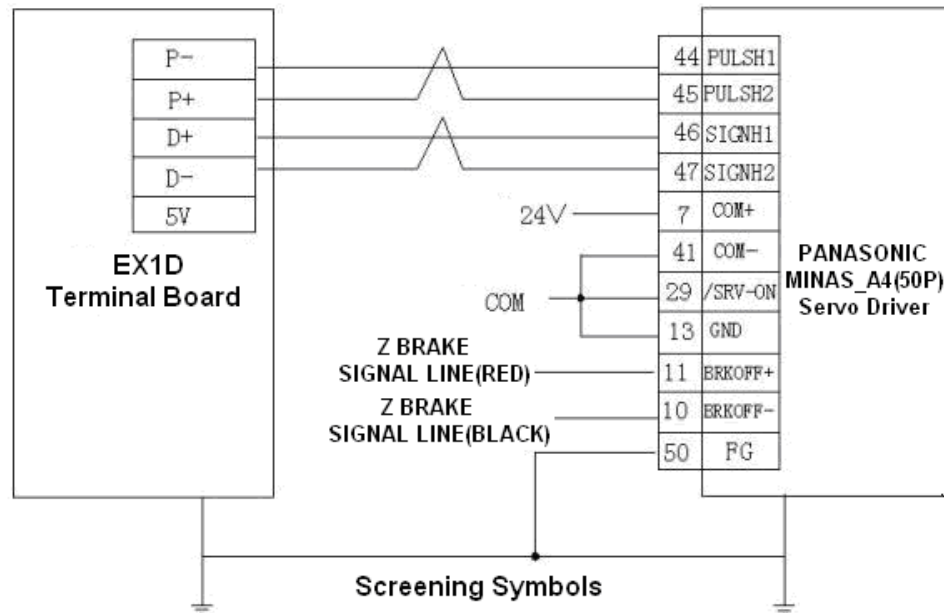

Fig. 4-14 Connection between Terminal Board EX1D and PANASONIC MINAS_A4 Servo Driver
- 1) Wiring diagram of connection between terminal board EX1D and PANASONIC MINAS_A4 servo driver is shown below in Fig. 4-14: